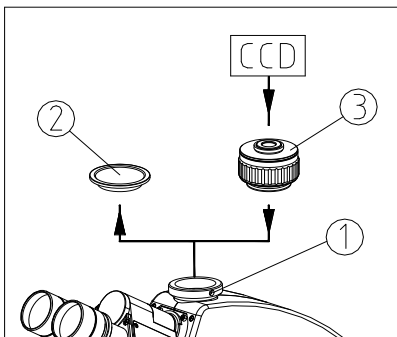

Fig.15
2. Place a drop of oil① on the specimen observed (see Fig. 15).